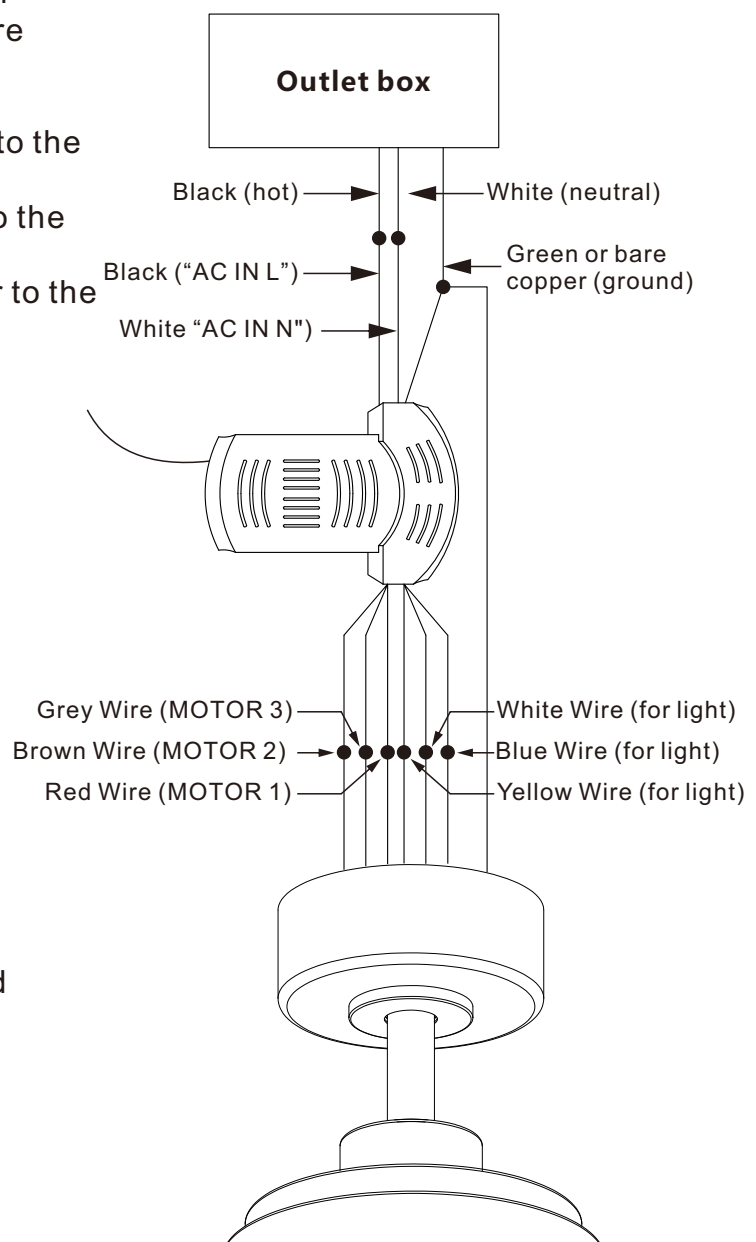

Figure 17
Motor to Receiver Electrical Connections:(Fig.17)
Step 2. (Fig.17) **Receiver to House Supply Wires Electrical Connections:** Connect the Black (hot) wire from the ceiling to the black wire marked "AC in L" from the receiver.
Step 3. (Fig.17) If your outlet box has a ground wire (green or bare copper) connect it to the fan ground wires and the receiver ground wire; otherwise connect the hanging bracket ground wire to the fan and the receiver ground wire. Secure the wire connection with a plastic nut provided. After connecting the wires, spread them apart so that the green and white wires are on one side of the outlet box and other wires are on the other side. Carefully tuck the wire connections up into the outlet box.